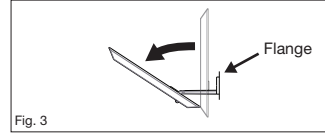

Fig. 3
9. Peel and remove (1) piece of protective strips from the circle piece of tape. Place the tape on the end of the arm and adhere the arm with the bar in the upward direction to the back side of the anchor bracket. The arm should sit inside ring. *It is important the arm always be upright.*
10. Peel and remove (1) piece of protective strips from tape on the supplied wall anchor brace bar. The tape is necessary to allow the supplied wall anchor brace bar to adhere to the back side of the wall for placement. (This will ensure that the bar will stay upright during installation.)
11. Get supplied anchor, flip the bar downward at the end of the arm. The bar should be tilted up only slightly. **(Fig. 3)**